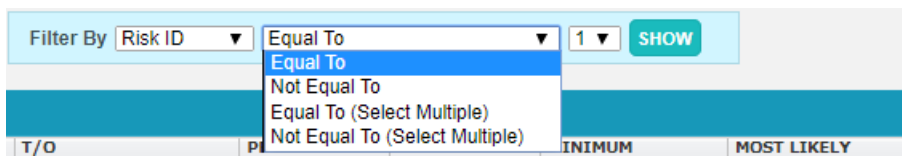
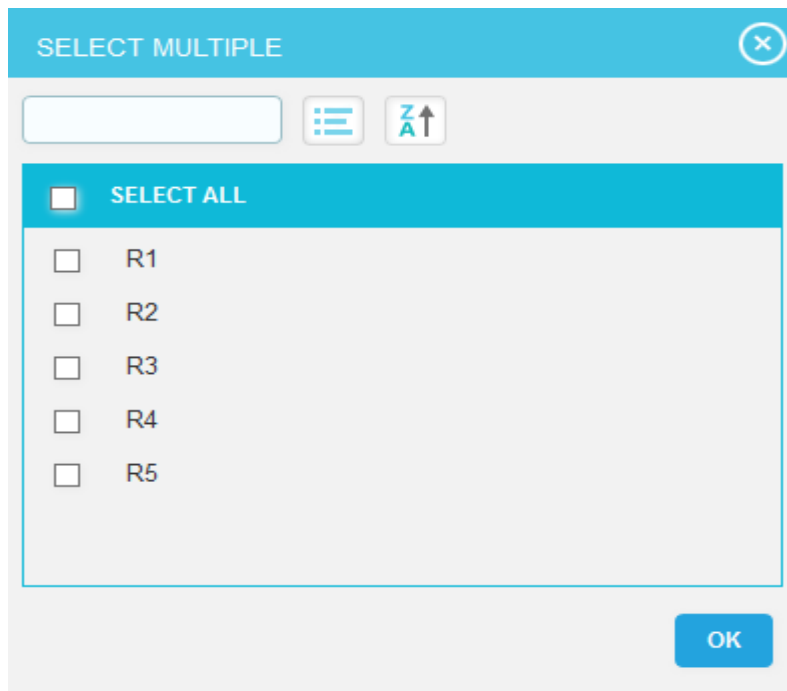

Figure 2.37
Figure 2.38
3. Enter the value in the **textbox** provided or select a value from the **drop down** based on which filtering is to be done. (Figure 2.37) While giving conditions with ‘select multiple’ option to filter, a pop up appears (Figure 2.38) where the multiple risks can be selected.
4. Click the **SHOW** button (Figure 2.37). The filtered data will be displayed.